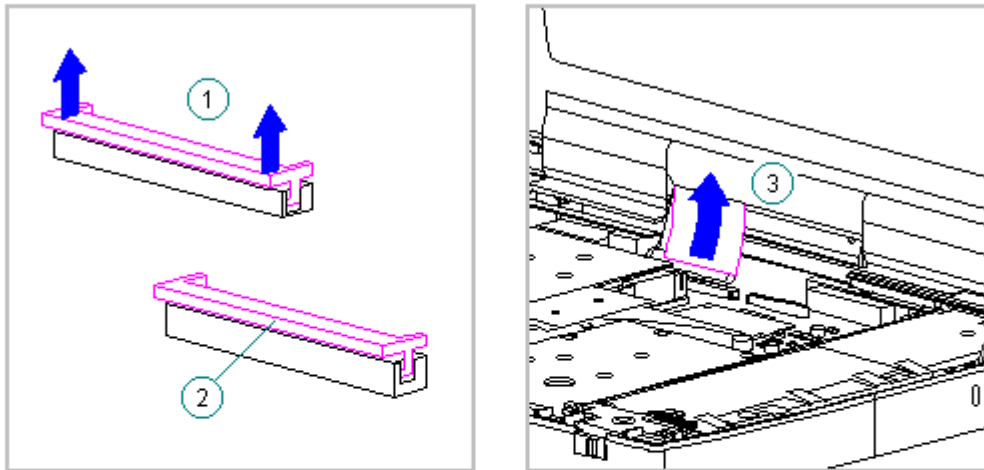

Figure 5-111. Disconnecting the Display Cable from the System Board
6. Lift up both ends of the ZIF connector slide simultaneously [1], carefully opening the slide [2] (Figure 5-111).
7. Lift the display cable out of the connector slide [3], being careful not to pull or twist the cable (Figure 5-111).